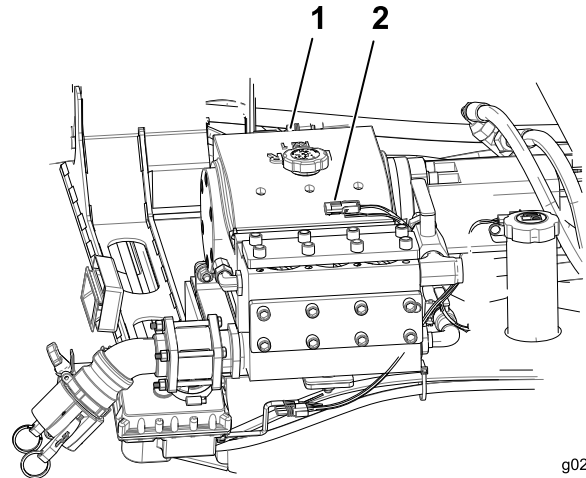

Figure 4
1. Plug the wire harness into the connector near the manifold (Figure 4).